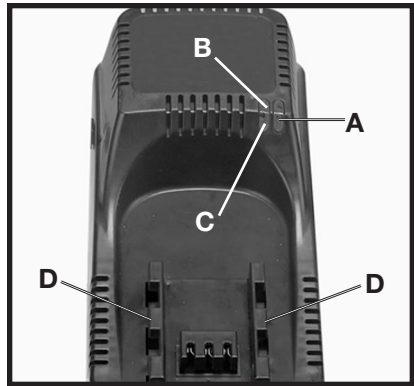
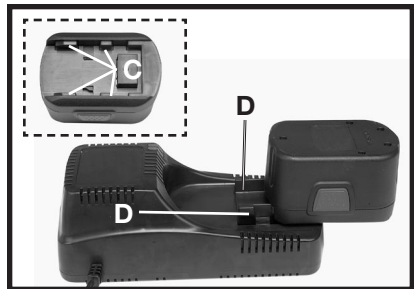

Fig. 5
Fig. 6
Make sure power circuit voltage is the same as that shown on the charger specification plate. Connect charger to power source. The orange light (A) Fig. 5, should light up. This indicates the charger is ready to begin charging.
Position battery pack on charger, align rails (D) Fig. 5 and Fig. 6, on battery charger with four tabs (C) Fig. 6 on battery pack. Slide battery forward onto charger until it stops.
The red light (B) Fig. 5, should begin to glow continuously, indicating that the battery pack is receiving a “Fast Charge” (if the red light does not glow continuously, and the green light (C) Fig. 5, begins to glow: remove battery and re-insert when battery temperature is between 40°F (4.4°C) and 104°F (40°C). After approximately one hour, the “Fast Charge” indicator light (red) should go out indicating that the battery pack is fully charged and that the charger is now in a “Trickle Charge” mode (green light). The battery pack can be left on “Trickle Charge” until you are ready to use it.